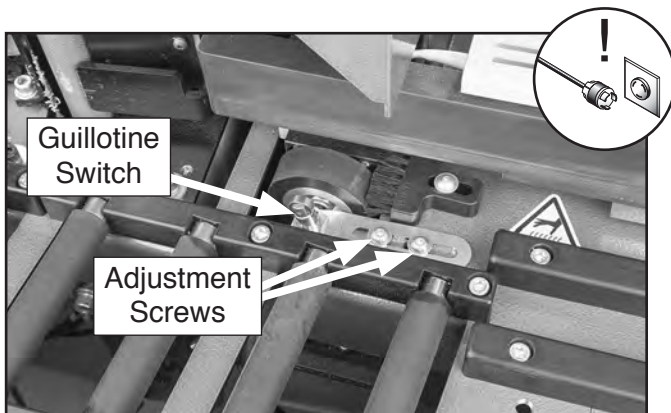

Figure 91. Location of guillotine limit switch and adjustment screws.
When the workpiece passes over the guillotine limit switch (see **Figure 91**), the guillotine severs the edgebanding, leaving a portion of excess that is then trimmed flush by the flush trimmer. If the guillotine leaves too much or too little excess edgebanding, you will need to adjust the switch.
2. Loosen adjustment screws (see **Figure 91**).